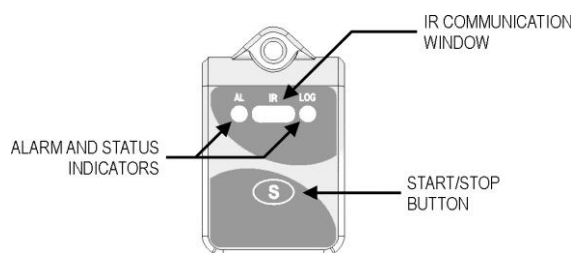

Figure 01 – Logger Front
- Immediately:** start as soon as set up is ready and sent (OK) to the logger.
- Via Start/Stop Button:** starts and interrupts readings by pressing the Start/Stop button, in the frontal part of the logger, for two seconds. See **Figure 01**.